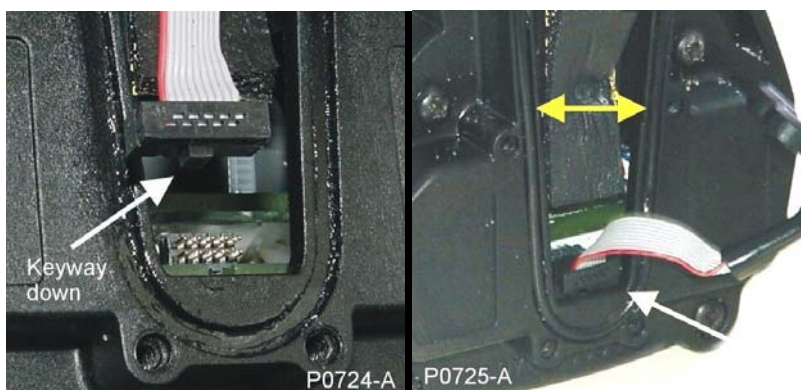

Figure 12: Correct Fitting of the Wiring Loom into the Electronics Pack
- Ensure that the keyway on the wiring loom plug (Figure 12) is towards the bottom of the electronics pack then plug the main wiring loom into the socket on the printed circuit board inside the electronics pack.